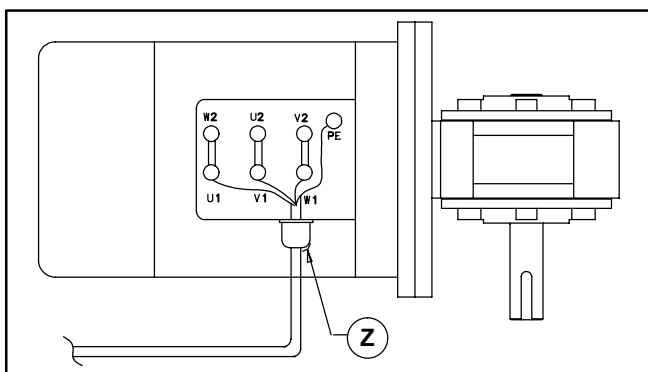

Figure 17
- b. Record wire colors on terminals U1, V1, W1 & PE (Figure 17). Loosen terminals U1, V1, W1 & PE and remove wires.
- c. Loosen cord grip (Z of Figure 17) and remove cord.